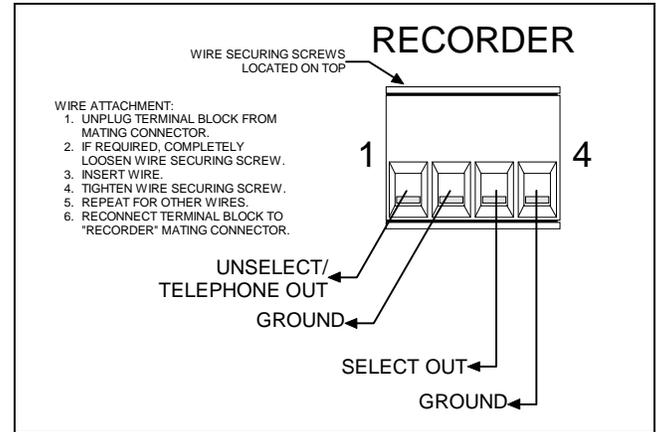

Figure 8 – Recorder Outputs At Enhanced Audio Enclosure
- ❑ Interconnect the outputs to call-check recorders as required. These outputs *are not* isolated from ground through isolation transformers and the two ground terminals are common. See Figure 8 and Table 26 for terminal identification. See the specifications in manual AE/LZB 119 1892 for audio signal output level specifications. If required, audio output levels may be adjusted via menu selection within the console's Dispatch Manager program.